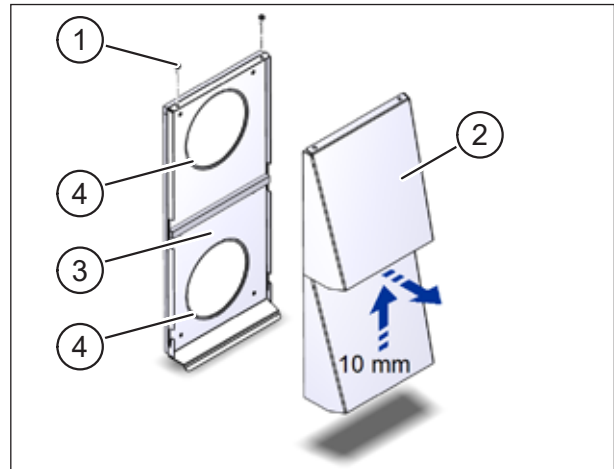

Fig. 17: Removing the cover
- ▶ Remove the two cross-head screws (item 1 in Fig. 17) at the top of the outer wall terminal.
- ▶ Slide the cover (item 2 in Fig. 17) up roughly 10 mm. Lift the cover away from the base plate (item 3 in Fig. 17).
- ▶ Fully coat the 4 mm wide sealing surfaces (item 4 in Fig. 17) on the inside with Vaseline.